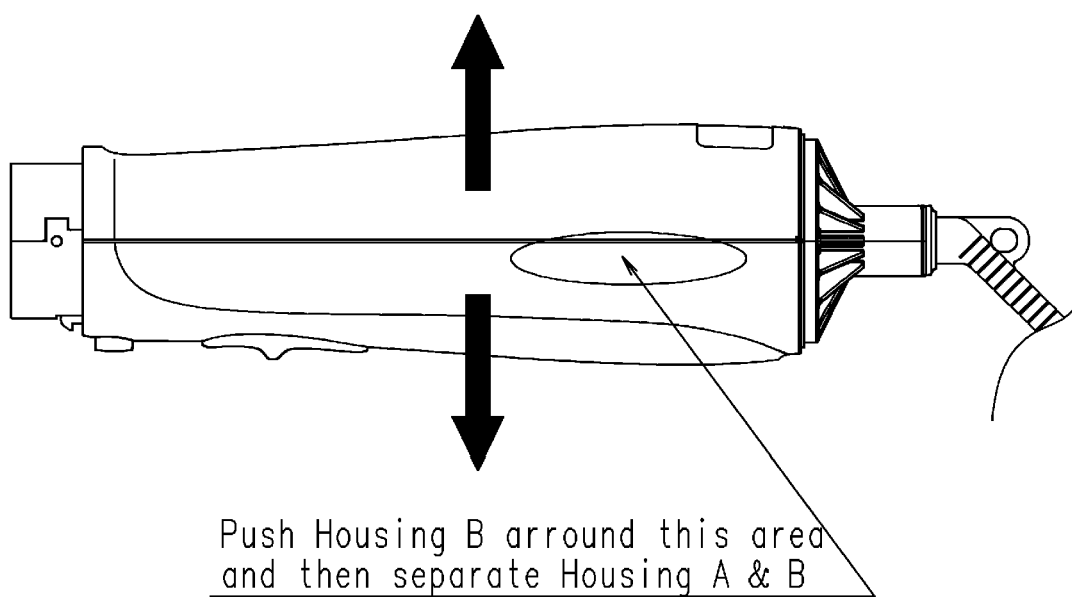

Figure 2
2. Separate the Housing A and B by unfastening Housing B at indicated area show in figure 2.